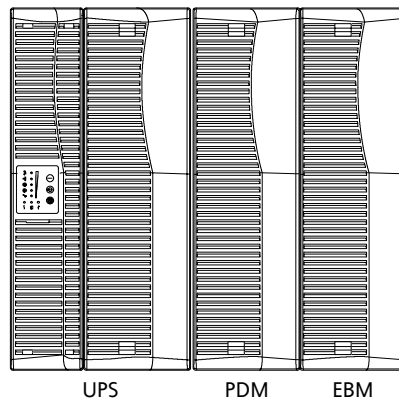

Figure 4. Tower PDM Configuration
1. Carefully position the cabinets upright (see Figure 4).
NOTE *The PDM must be installed to the right of the UPS (between the UPS and EBM) as shown in Figure 4.*